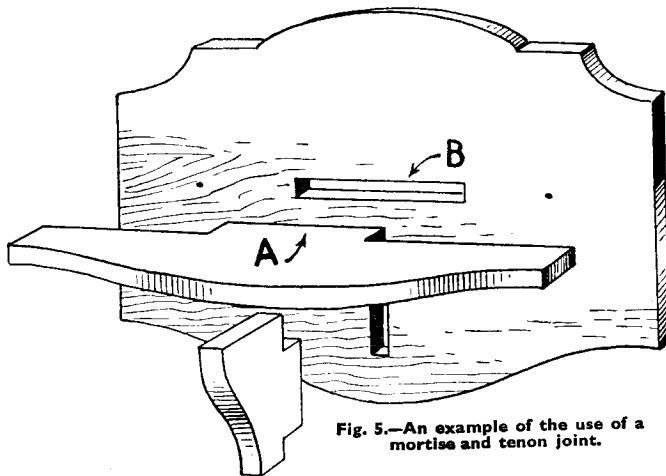

Fig. 5.—An example of the use of a mortise and tenon joint.
A very common form of joint is the mortise and tenon — illustrated at Fig. 5. Here we have one piece with a little projecting tongue (A) which fits into the corresponding slot (B). The projecting piece is the tenon and the opening the mortise.